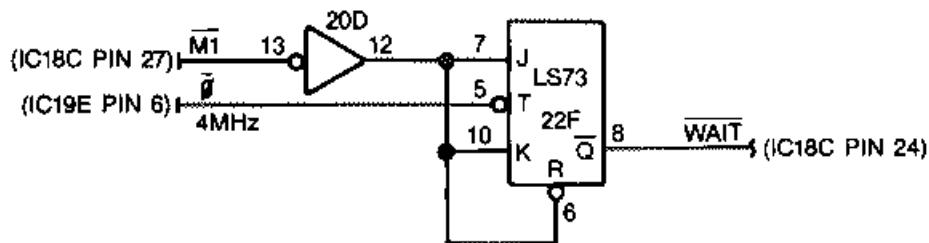

FIGURE 2-23. Z-80A WAIT SIGNAL GENERATOR CIRCUIT
2.3.1.5 Z-80A WAIT Signal Generator Circuit (Figures 2-23 and 2-24)